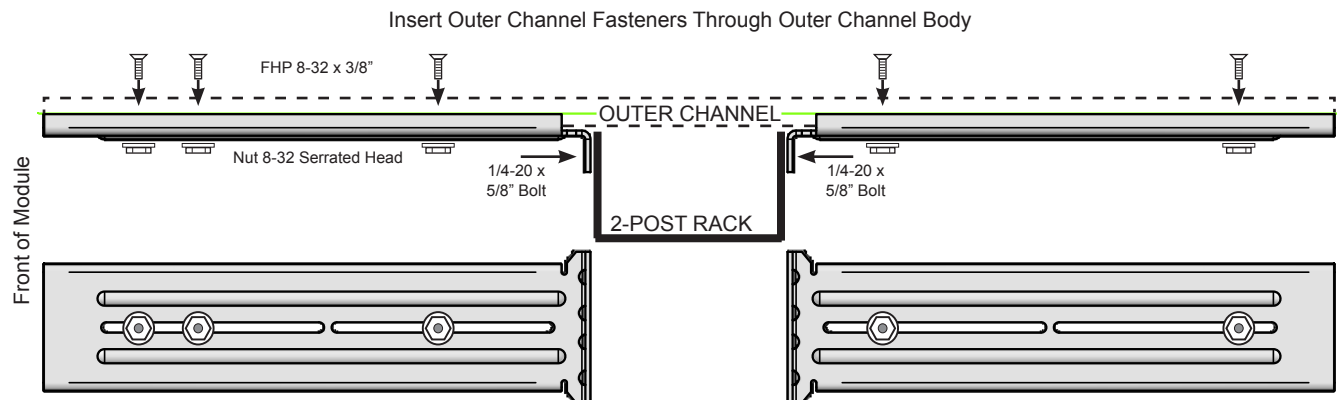

FIGURE 6: ATTACH OUTER CHANNEL TO 2-POST SLIDE BRACKET (2 PER MODULE)
3. Insert the screws through the Outer Channel Body and 2-Post Slide Bracket (Figure 6).
4. Secure the four FHP 8-32 x 3/8 in. screws with the 8-32 serrated head nuts from 90400 kit. The nuts screw on from the outside of the 2-Post Slide Bracket. (Figure 6)